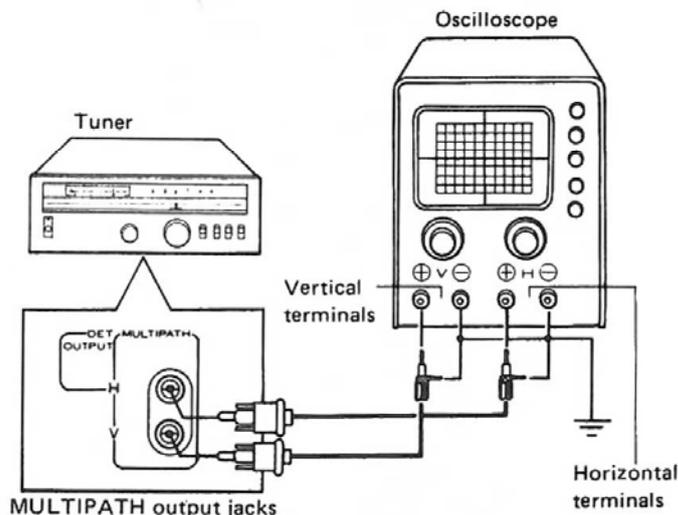

Fig. 13
1. As shown in Fig. 13, connect the H (Horizontal) multipath output jack at the rear of the tuner to the horizontal axis input jack on the oscilloscope and the V (Vertical) multipath output output jack to the Vertical axis input jack with good quality shielded wires.